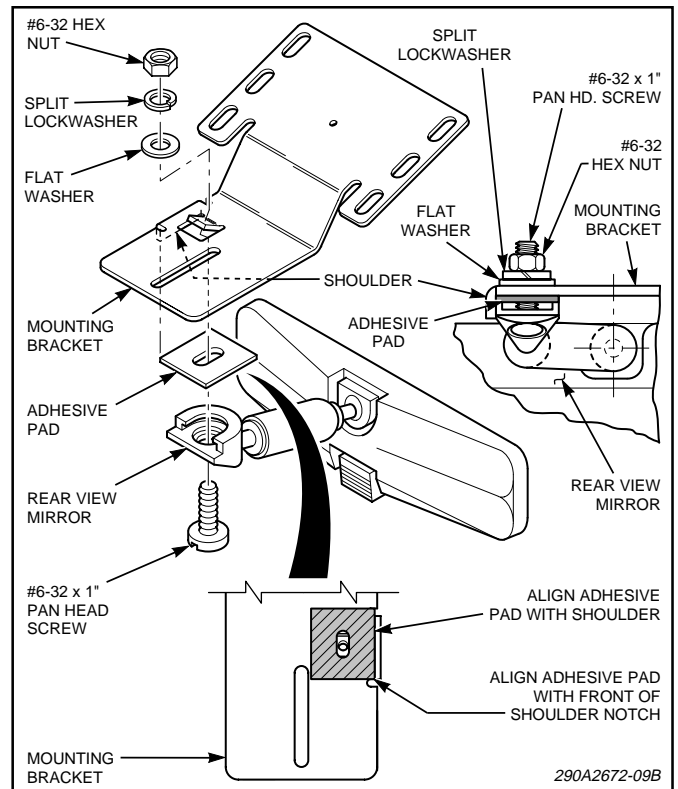

Figure 2.
4. See figure 2. Remove the release liner from one side of the adhesive pad and secure the pad to the mounting bracket in the location shown. Remove the release liner from the other side of the adhesive